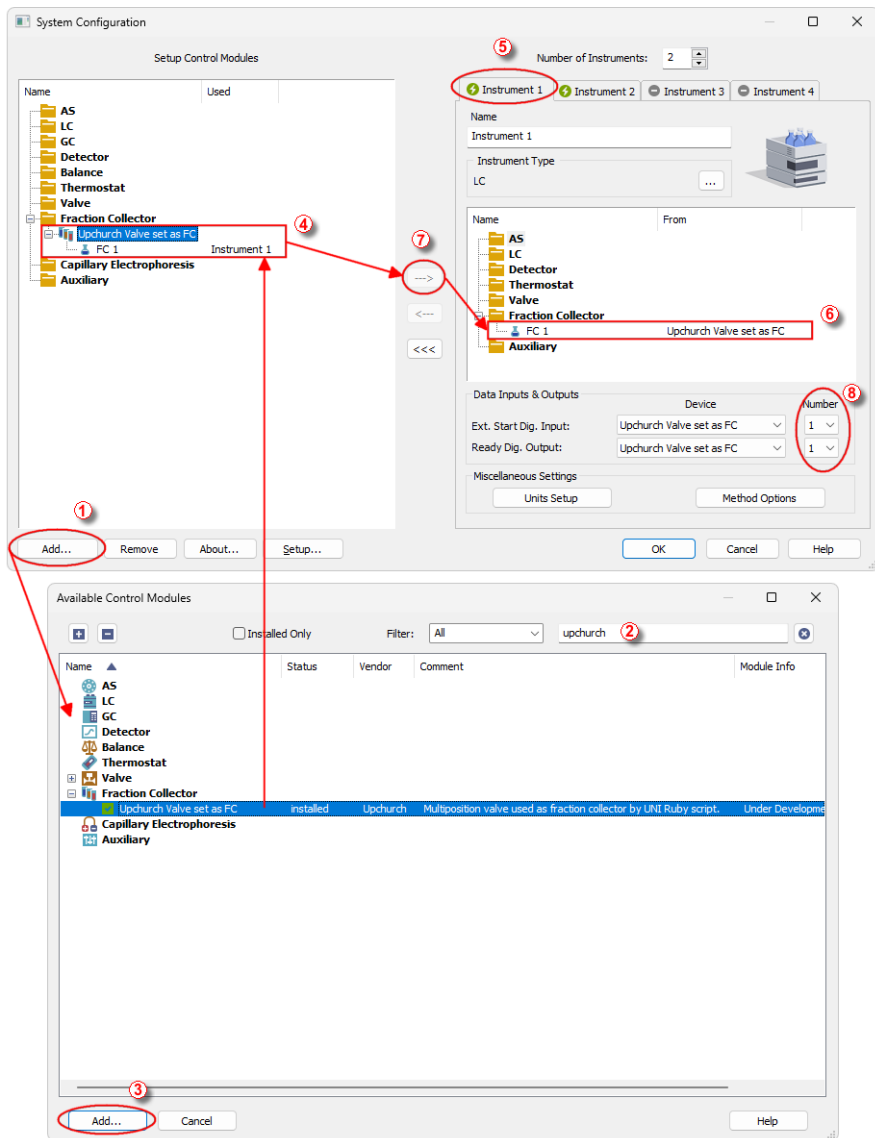

Fig. 3: How to add FC by Upchurch Valve
- Press the *Add* button (① on **Fig. 3** on pg. 4.) to invoke the *Available Control Modules* dialog.
- You can specify the search filter (②) to simplify the finding of the driver.
- Select the correct item and press the *Add* (③ on **Fig. 3** on pg. 4.) button. Each device with already created UNI profile should have its own item named accordingly in the *Available Control Modules* dialog.